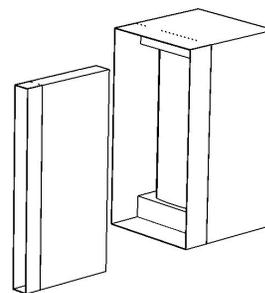

FIG.2
2. Open the box and take out the array box. (FIG.2)